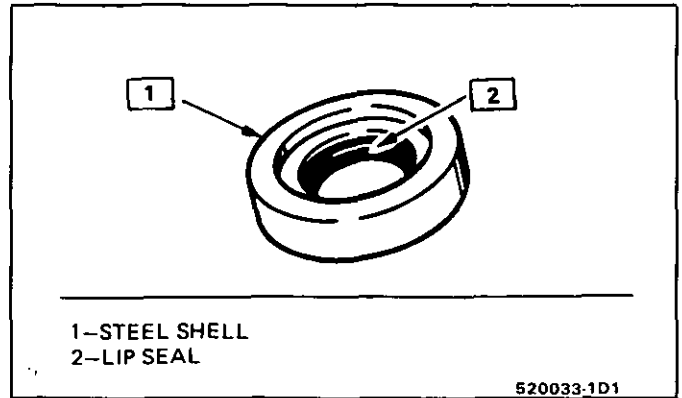
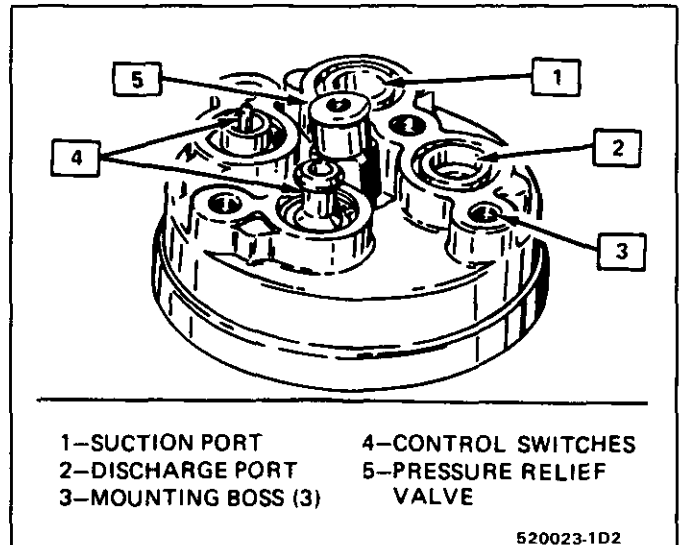

Fig. 22 Compressor Shaft Seal
Fig. 23 Compressor and Clutch Assembly - Rear View
When replacing the shaft seal assembly (Fig. 22), pressure relief valve or rear head mounted pressure switches (Fig. 23), even if the compressor remains on the vehicle during the operation, it will be necessary to discharge the system of refrigerant (see Section 1B). Other than clutch repair procedures, the same holds true for any disassembly of the compressor.
Seals should not be re-used. Always use a new specification service seal kit on rebuild (Fig. 22). Be sure that the face of the seal to be installed is not scratched or damaged in any way. Make sure that the seal is free of lint and dirt that could damage the seal surface or prevent sealing.
2. Remove old pressure relief valve (Fig. 23).
2. Disconnect the electrical connector from the high-pressure cut-off switch in the rear head of the compressor (Fig. 23).
3. Remove the high-pressure cut-off switch retaining ring (Fig. 23), using J-5403 internal snap ring pliers.